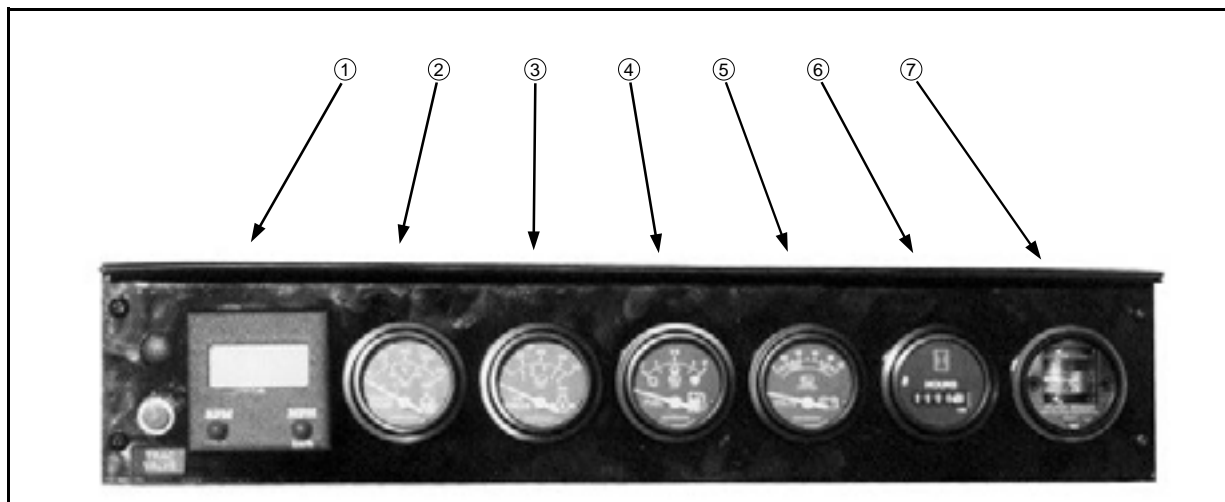

FIG 5.37
**Speedometer/Tachometer** - (fig. 5.37, item 1)
**Water Temperature** - (fig. 5.37, item 2) The water temperature gauge monitors the engine cooling system. A "RED" indicator light alerts the operator of unsafe operating temperatures.
**Engine Oil Pressure** - (fig. 5.37, item 3) The oil pressure gauge monitors pressure of the engine lubricating system. A "RED" indicator light alerts the operator of low level operation.
**Fuel Gauge** - (fig. 5.37, item 4) The fuel gauge measures the amount of fuel in either fuel tank, depending on the tank selected with the fuel switch. A "YELLOW" indicator light alerts operator of low level operation.
**Volt Meter** - (fig. 5.37, item 5) The volt meter measures voltage from the alternator on the diesel engine. A "RED" indicator light will alert the operator if the system is operating either too low or too high.
**Hour Meter** - (fig. 5.37, item 6) The hour meter progressively records elapsed time of detasseler operation. It is useful for determining service intervals.
**Filter Minder** - (fig. 5.37, item 7) See page 82 for information regarding the air filter monitoring system.